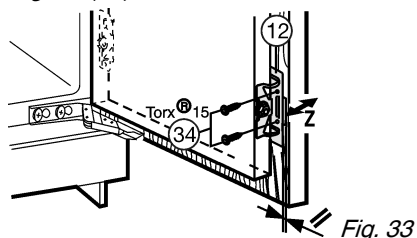

Fig. 33
- Fit a 2nd pair of mounting brackets Fig. 33 (12).
- ▶ Screw the appliance door to the unit door with screws *Fig. 33 (34)* through the mounting brackets *Fig. 33 (12)*.